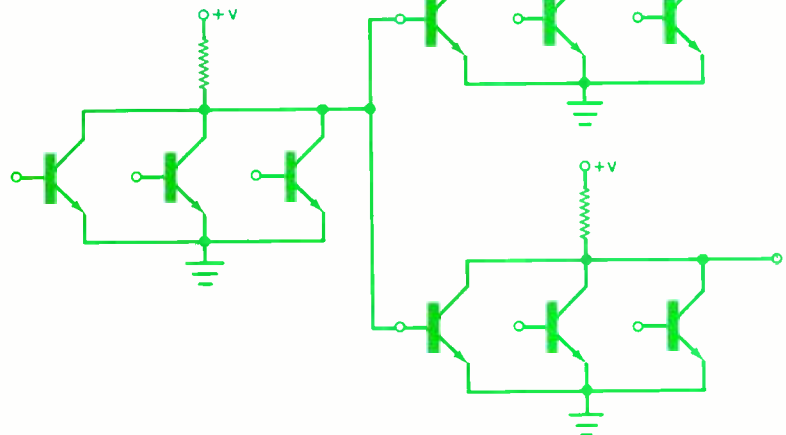

Fig. 2. A DCTL circuit which can be made smaller using I2L.
**Evolution of I2L.** The advantages of I2L came from shrinking DCTL, shown in Fig. 2, into a compact equivalent structure. The input circuit consists of three transistors in parallel. If one or more of these transistors is conducting, they act as short circuits, preventing current from flowing through the load gates. When all input transistors